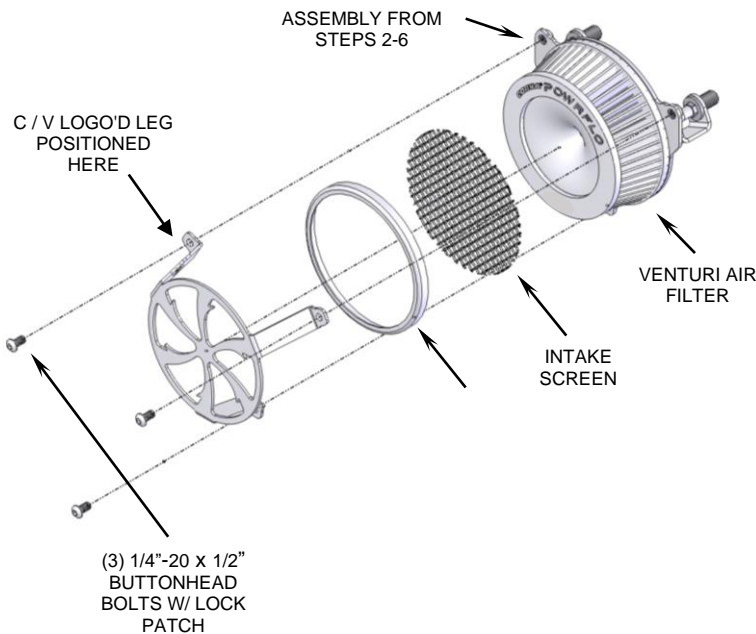

FIGURE 2
7. Place the supplied air filter onto the velocity stack. Insert the round intake screen into the chrome ring so the screen sits inside the edge of the ring. Place the ring and screen between the legs of the naked chrome intake cover as shown in Figure 2.
8. Place the naked intake cover, ring and screen assembled in Step 7, over the air filter and align each leg to the base mounting plate threaded holes. Be sure screen sits at a 45 ° angle to the bottom leg, and C/V logo'd leg is at the upper left position. Insert the (3) supplied 1/4"-20 x 1/2" buttonhead bolts through the intake cover and into the base mounting plate, see Figure 2. Double check all parts are aligned properly and tighten securely.